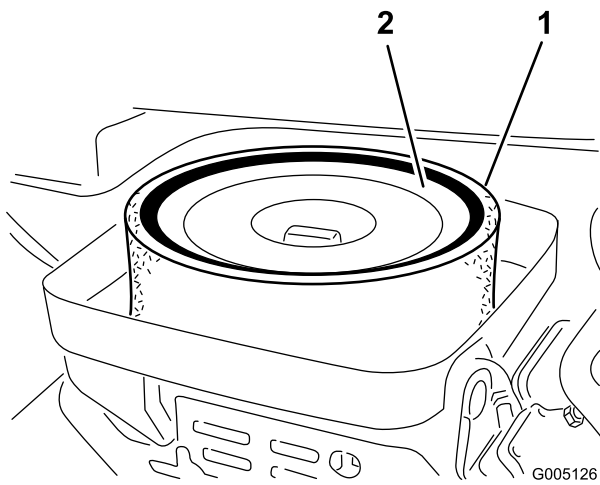

Figure 42
3. If the foam element is dirty, remove it from the paper element (Figure 42). Clean it thoroughly, as follows: